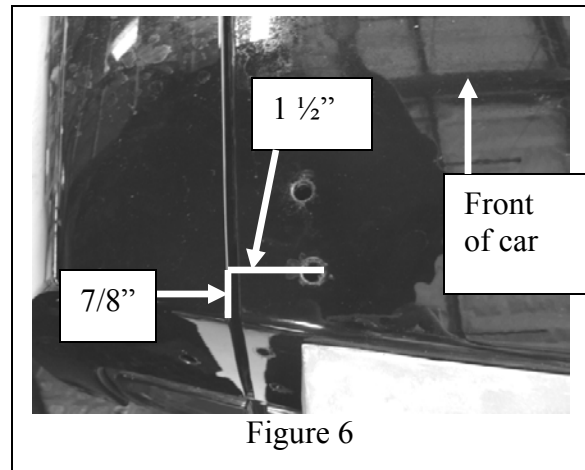

Figure 6
6. The driver side hole will be 1 ½" in from the driver side outboard edge of the deck lid, and 7/8" forward from the rear outboard corner of the deck lid. (Figure 6)